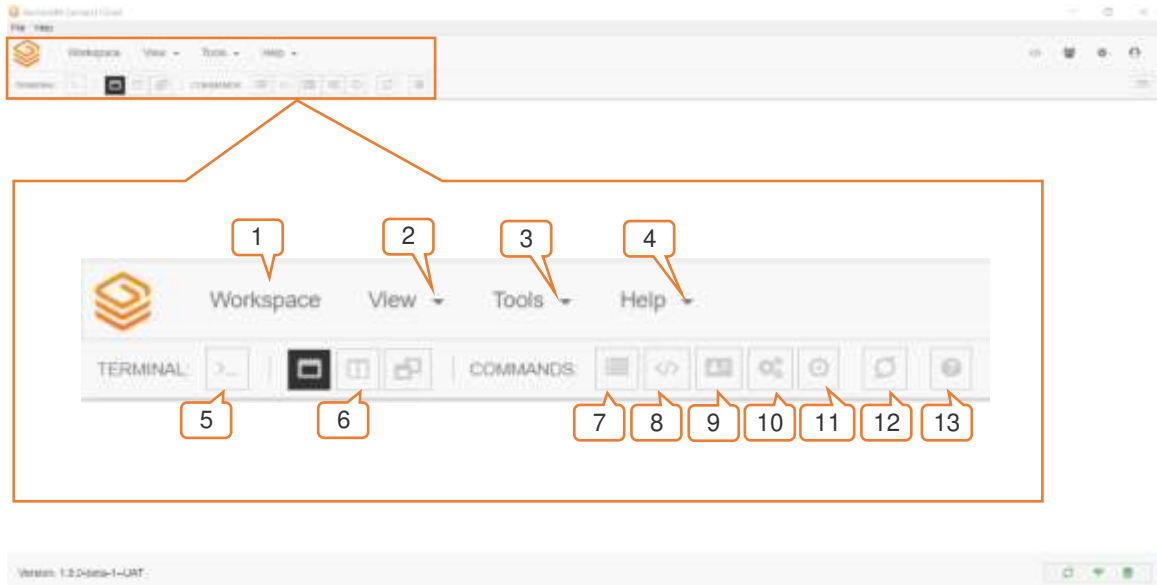

Figure 14 – A close-up of the main window.
1. Various Connect commands explained in detail in Figure 14.